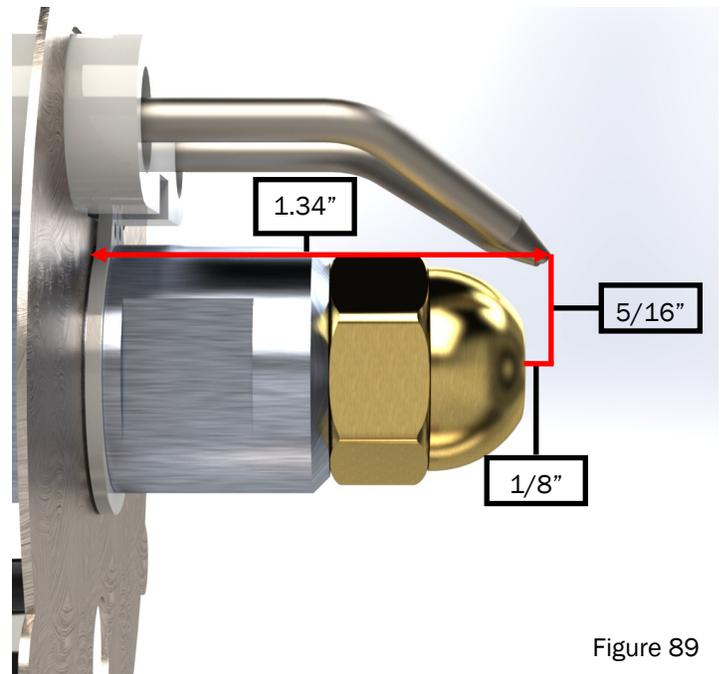

Figure 89
8. Carefully measure the distance from the front of the igniter module to the static plate as shown below. It should measure 1.34" from the static plate. A caliper may be necessary. Reference figure 89 below.